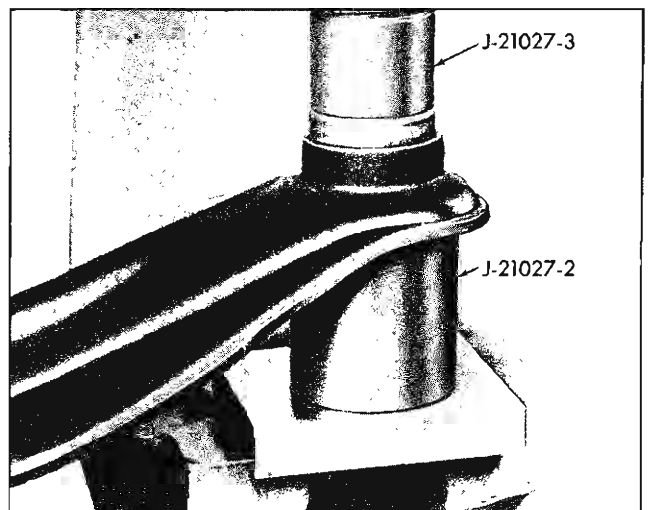

Fig. 3-35 Removing Bushing
1. Rest arm on support J-21027-2. Place remover J-21027-3 between control arm and arbor and press out bushing (Fig. 3-35). Remove other bushing from arm in same manner.